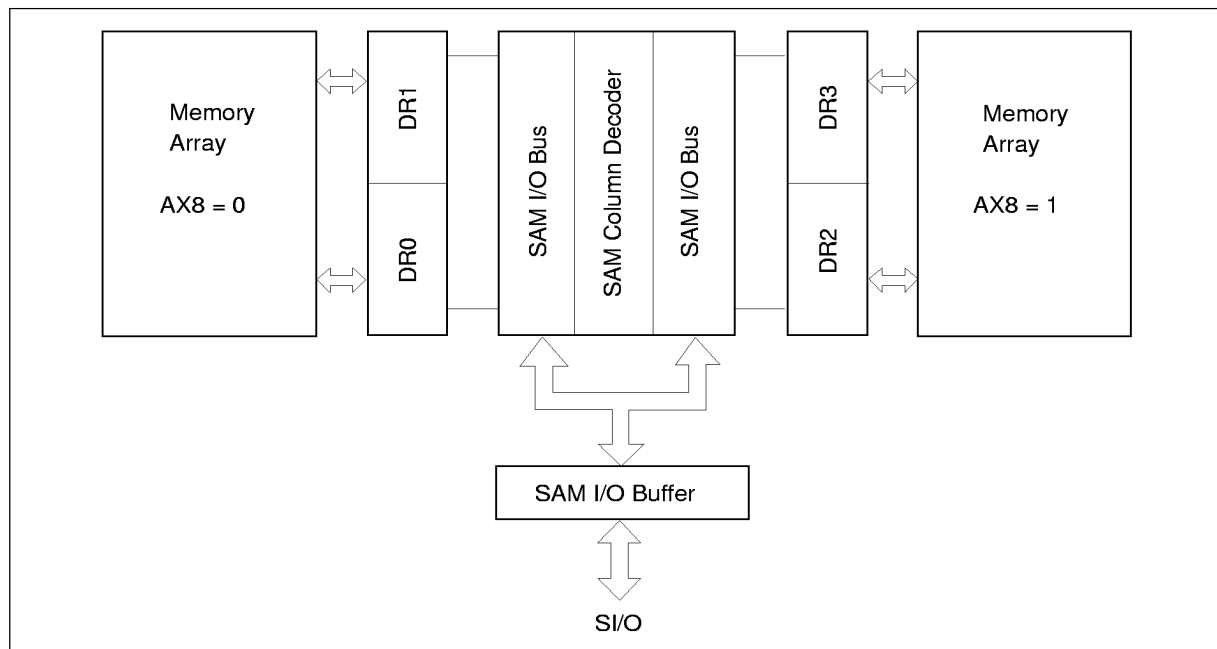

Figure 5 Split Transfer Block Diagram
Figure 5 shows the block diagram for the normal split register operation. SAMdata register (DR) consists of 2 split buffers, whose organizations are 256-word  $\times$  8-bit each. Suppose that data is read from upper data register DR1. (The row address AX8 is 0 and SAM address A8 is 1.) When split read transfer is executed setting row address AX8 to 0 and SAM start addresses A0 to A7, 256-word  $\times$  8-bit data is transferred from RAM to the lower data register DR0 (SAM address A8 is 0) automatically. After data is read from data register DR1, data read begins from SAM start addresses of data register DR0. If the next split read transfer isn't executed while data is read from data register DR0, data read begins from SAM start address 0 of DR1